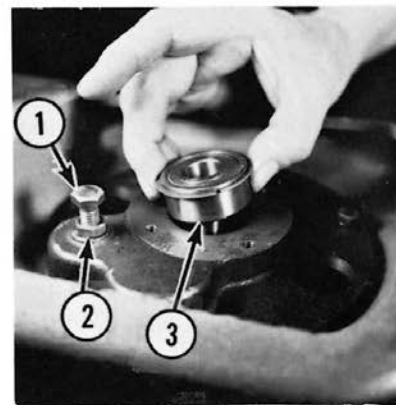

Fig. 3-36
- X. The position of the bearing pusher is controlled by the hex head cap screw (1, Fig. 3-36) and hex jam nut (2, Fig. 3-36). If you have not moved this screw and nut, it may not be necessary to make a new adjustment.
- AA. Install the upper planetary shaft ball bearing (3, Fig. 3-36). This is a snap ring bearing and is mounted with the shield up.